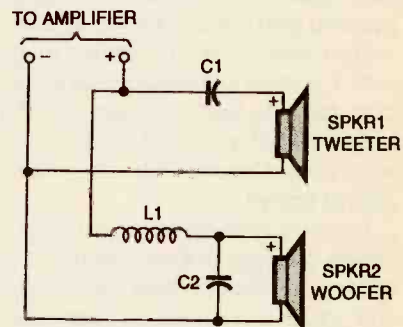

Fig. 3. A crossover network divides the frequency spectrum up so only the necessary sonic components are reproduced by each driver.
**The Crossover Components.** Let's look at an example circuit to see just what a crossover does. The simple crossover circuit in Fig. 3 is applied to a speaker system that has a woofer and tweeter. Notice that there is an inductor wired in series with the woofer, and a capacitor wired in series with the tweeter. Those two elements divide the sound spectrum between the drivers.
The inductor when connected as in Fig. 3, forms a low-pass filter. That is, it allows the low frequencies to pass through it, but will block all high frequencies. The result is that only the bass is passed, which is fine since the woofer can only mechanically reproduce bass any way, and therefore it avoids wasting power from the amplifier uselessly. The action of the low-pass filter on frequency is shown graphically in Fig. 4A.
The capacitor, when it is connected to a tweeter as shown back in Fig. 3, performs a function that is the complement to the inductor: It forms a high-pass filter. It will only allow high frequencies to pass, keeping the strong bass power out of the small high-frequency driver. That prevents possible distortion and damage. The effect the high-pass filter has is shown in Fig. 4B.